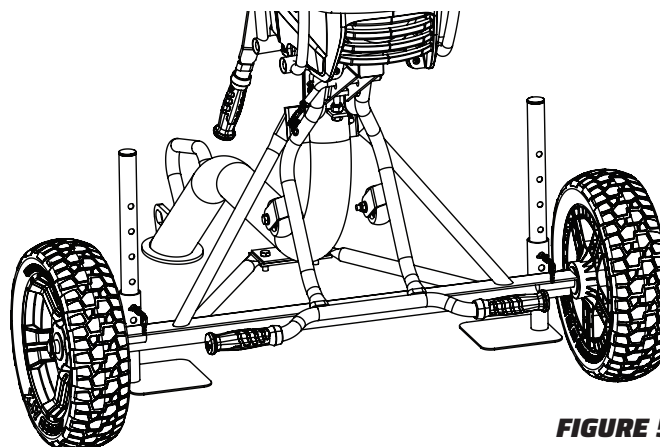

FIGURE 5
- The rear handle bars can be folded down once loaded for transportation. (Figure 5)